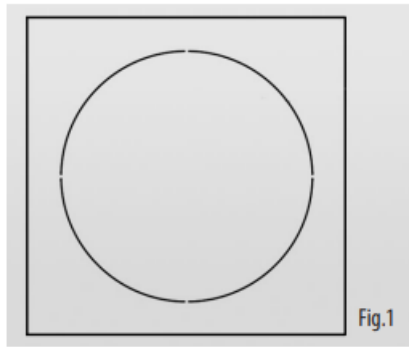

Fig.1
1. Remove the ceiling tile from its frame and place it on a flat surface. Mark the cut-out area on the ceiling tile by tracing around the template provided. (Fig.1)